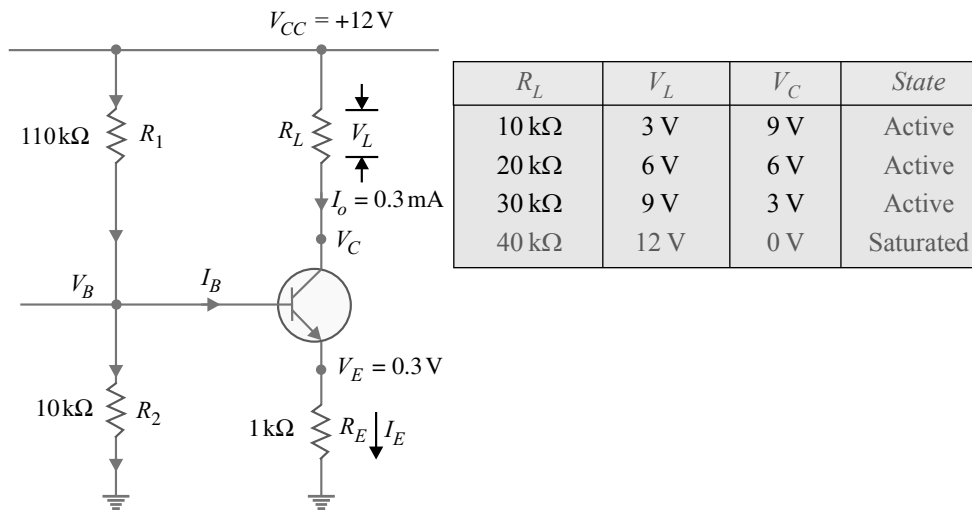

Fig. 6.66
**Example 6.45.** For the *npn* transistor circuit shown in Fig. 6.66, show that the transistor acts as a constant current source upto  $R_L \approx 40 \text{ k}\Omega$ .
**Solution.** Referring to the *npn* transistor circuit shown in Fig. 6.66, we have,